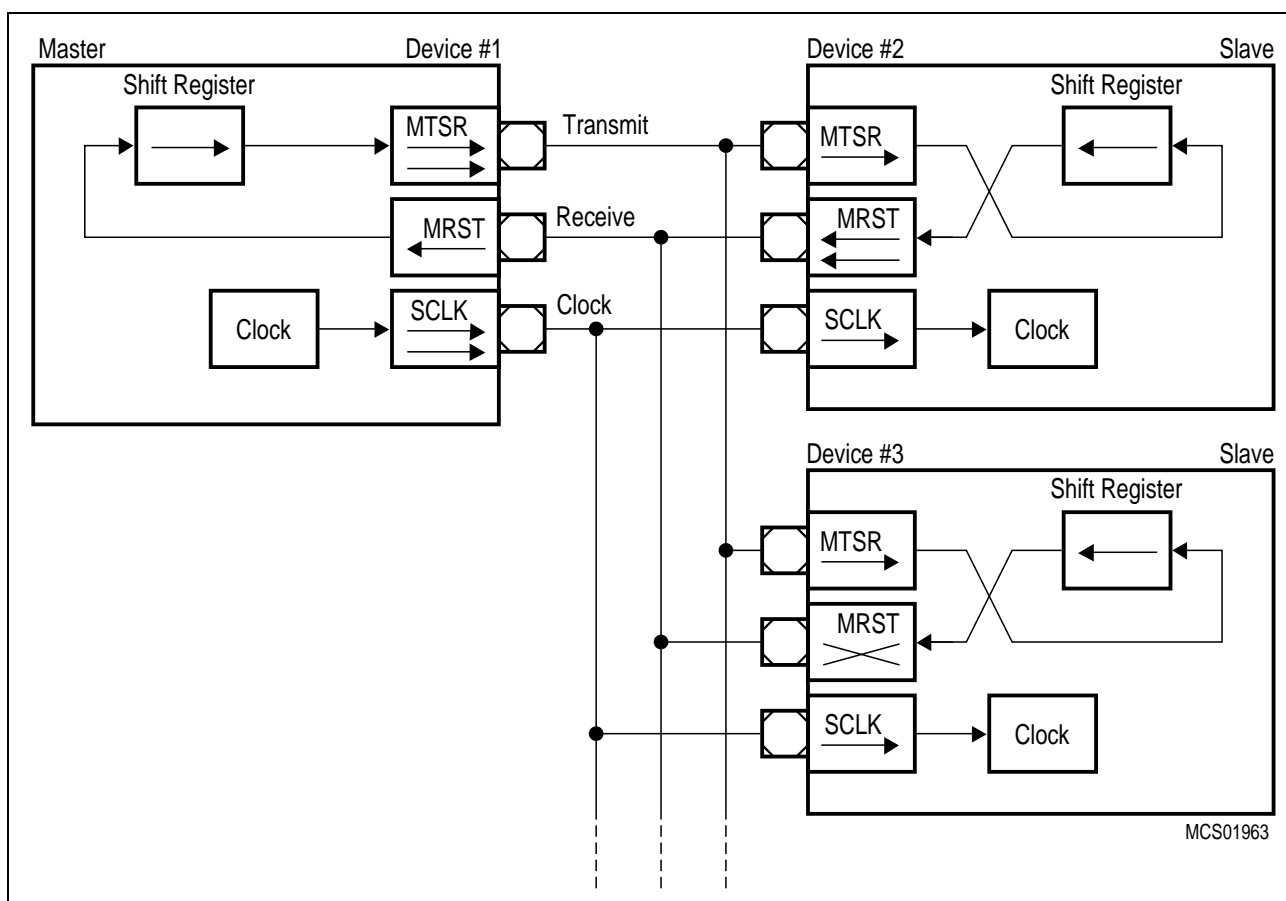

Figure 12-4 SSC Full-duplex Configuration
*Note: The shift direction shown in **Figure 12-4** applies for MSB-first operation as well as for LSB-first operation.*